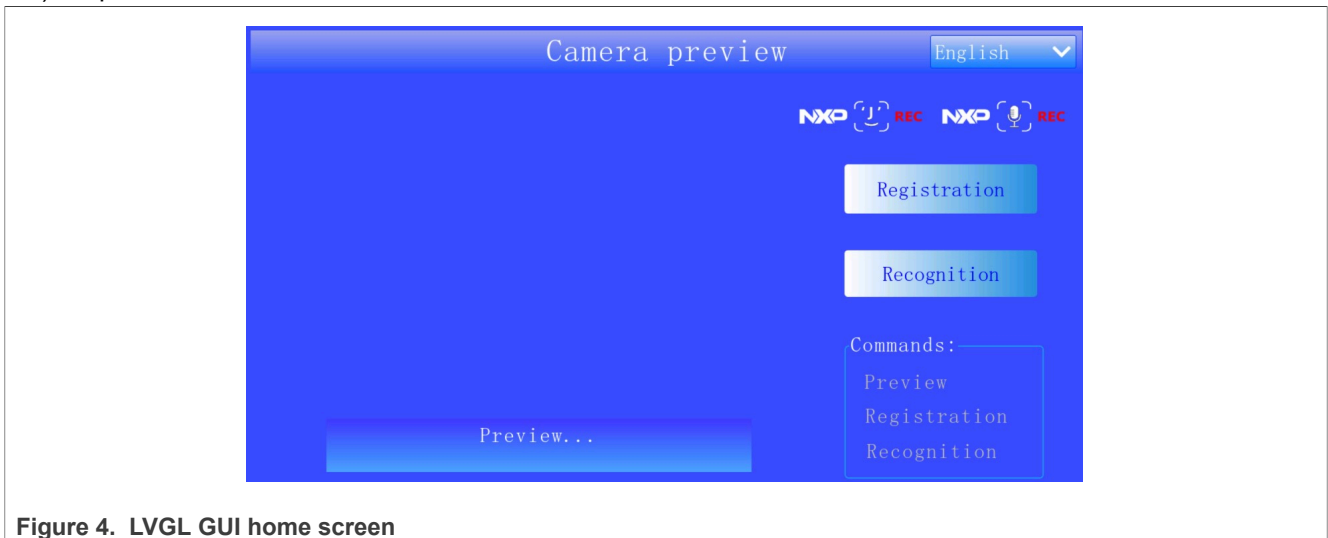

Figure 4. LVGL GUI home screen
- Similarly, add a dropdown list widget for language selection on the home screen for the same functions with the standby screen. The hints for the supported voice commands are presented on the screen as well. See Figure 4. The voice commands have the same functions with the touch: